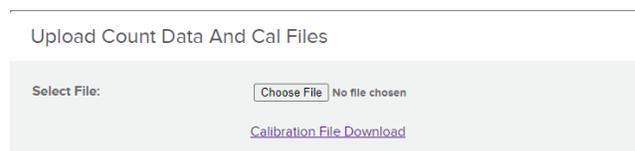

Figure 60: Upload Count Data And Cal Files window
1. Click on **Data Collection** then **Upload Counts/Cal Files**. The **Upload Count Data and Cal Files** window opens (Figure 60).
- nCounter data require a **Calibration file** for each new lot of Hyb Code. Download lot-specific Calibration files from <http://www.nanosttring.com/dspcalibfiles> or directly from the instrument (**Calibration File Download**) (Figure 60).